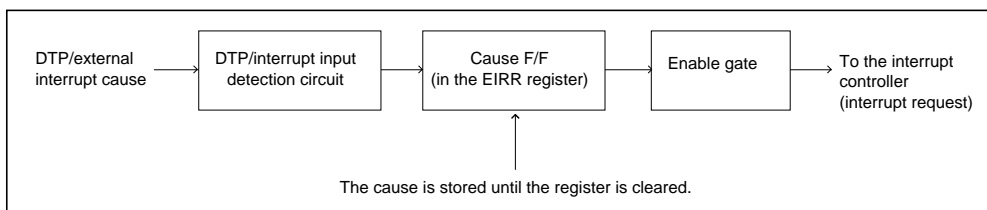
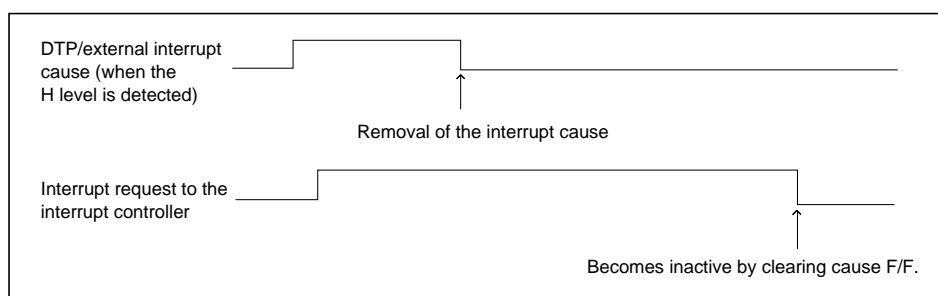

Figure 16.6-1 Clearing the cause retention circuit when a level is specified
Figure 16.6-2 DTP/external interrupt cause and interrupt request when the output of interrupt requests is enabled
- If the register is set for level detection, and the level to be detected as an interrupt cause is input, cause F/F in the DTP/interrupt cause register (EIRR) is set to 1 to store the cause, as shown in Figure 16.6-1. Even if the cause is removed, the request to the interrupt controller remains active provided the output of interrupt requests is enabled. Thus, to cancel the request to the interrupt controller, clear the external interrupt request flag bit and cause F/F, as shown in Figure 16.6-2.